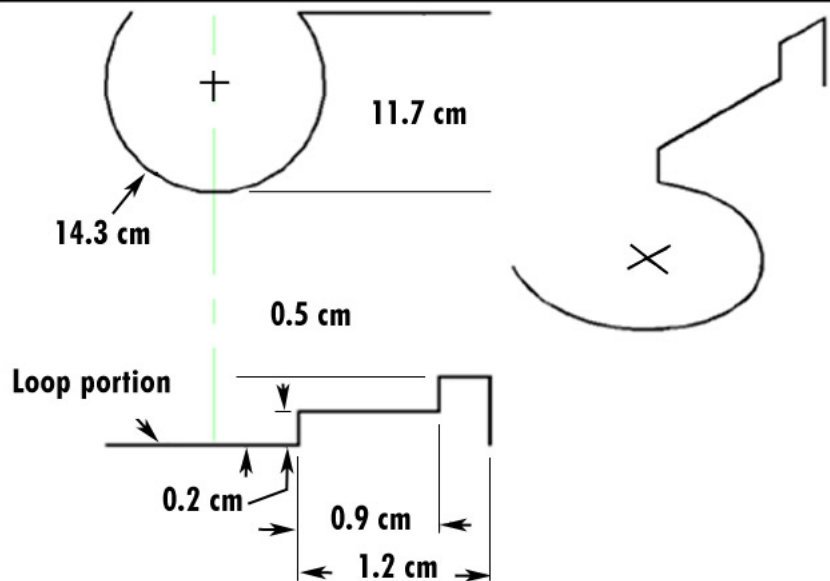

Figure 201 Counter electrode
The counter electrode (CE) is typically made from platinum-iridium wire (Figure 201). It should encompass as much of the inner rim of the liquid cell as possible. It may be useful to make the diameter of the electrode slightly larger than the diameter of the cell, so that the electrode will hold itself in place against the walls of the cell.